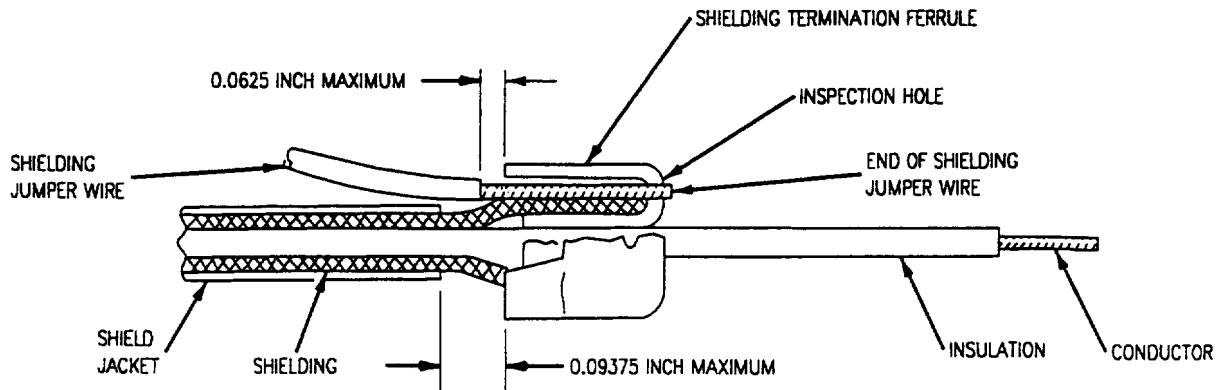

Figure 26 . Installing Shielding Termination Ferrule
- d. Insert shielding jumper wire into shielding termination ferrule so that end of jumper wire is visible through inspection hole of ferrule. See Figure 26 .